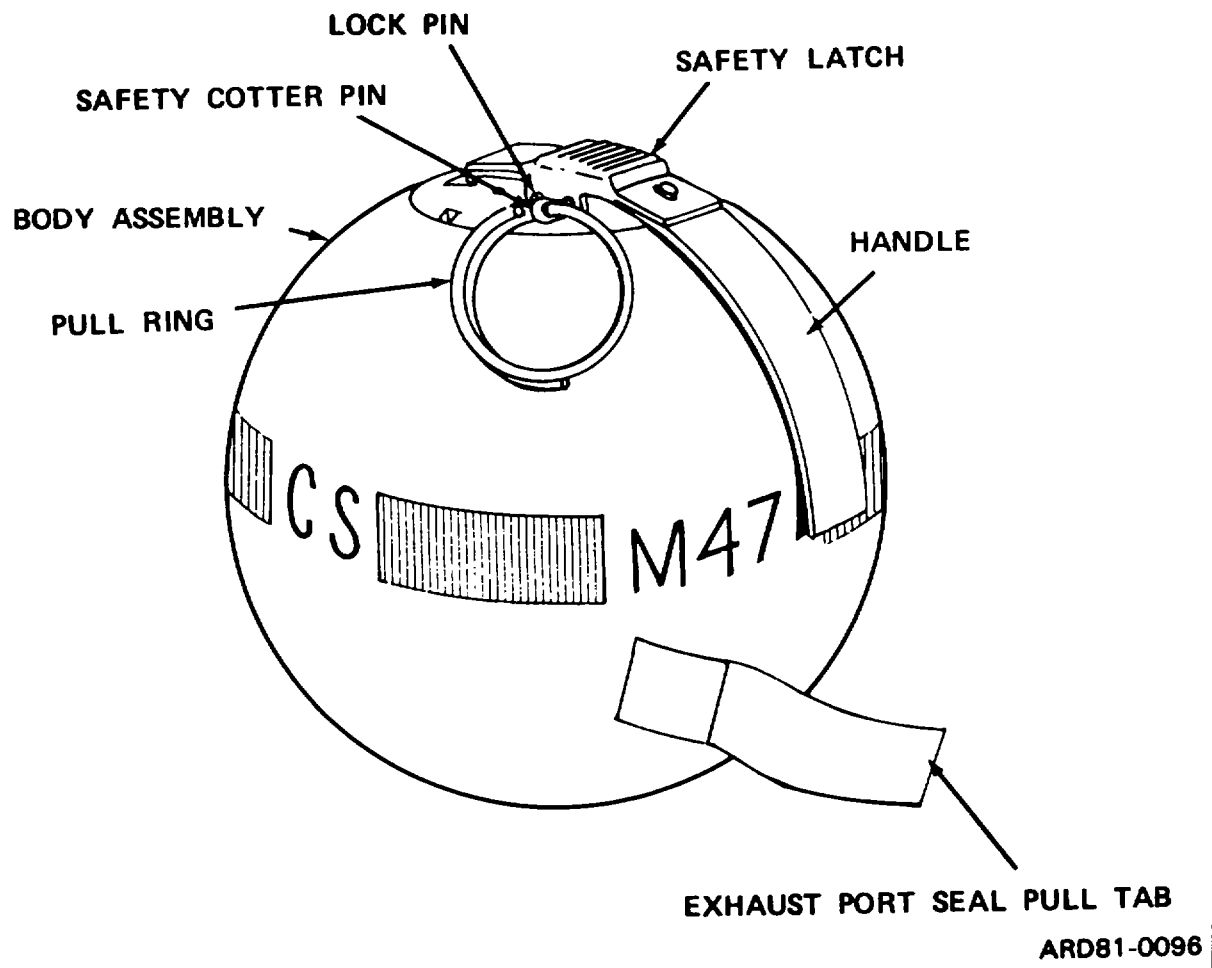

Figure 1-2. CS riot hand grenade M47.
(2) *Grenades M47 (fig. 1-2) and M48.* Grenade fuze M227 is restrained from functioning by the safety cotter pin, sliding safety latch, and handle. The exhaust port seal is removed and discarded immediately before pulling the safety cotter pin. When the safety cotter pin is removed and the safety latch is pushed rearward (fig. 1-3) from the lock pin, the handle is unlocked and the GRENADE IS ARMED. Releasing the handle causes the arming pin spring to eject the arming pin. This releases the firing pin, allowing the firing pin to activate the primer. The primer ignites the first-fire mixture, which flashes and ignites the delay mixture. This, in turn, ignites the ignition mixture. The ignition mixture burns through an aluminum foil shield on the bottom of the fuze and ignites the granulated CS pyrotechnic mixture in the grenade body. The burning mixture builds up pressure and opens the tape covering the exhaust port. This pressure also forces release of CS from the grenade, while jet action causes the grenade to move quickly and erratically along the ground. The M48 functions in the same manner as the M47, except that the M48 emits red smoke.